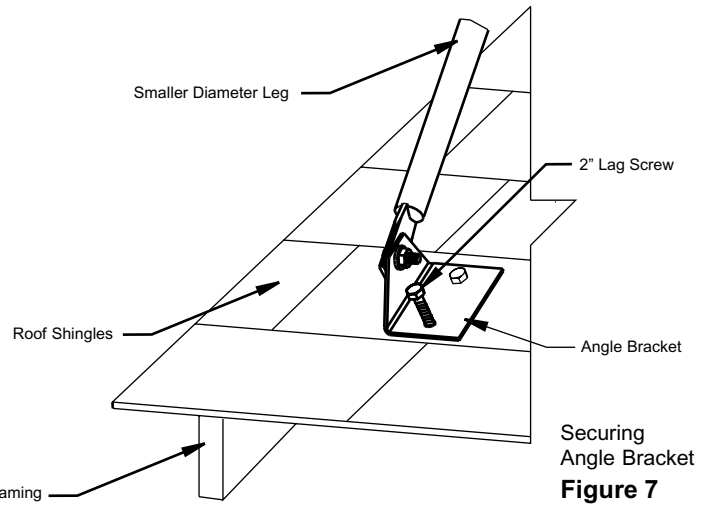

Figure 7
- H. Attach the other end of each telescoping leg assembly to an Angle Bracket using one (1) 1/4-20 X 1" bolt and nut (see Figure 7).
- I. Determine the location of the two Angle Brackets on the roof structure. Ensure the fasteners are into rafters or framing and not just roof sheathing. Secure the Angle Brackets to the roof structure using two (2) 1/4 X 2" lag screws per brackets (see Figure 7). Apply a thin layer of caulking under the angle bracket (before securing in place) as well as over the lag screw heads.